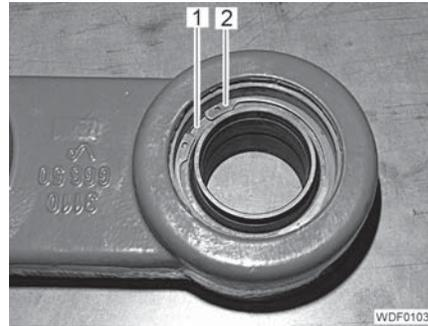

Fig. 300 Securing the bearing
- Remove the locking ring (Fig. 300,2) and washer (Fig. 300,1) on the underside of the self-aligning bearing.
- Insert the washer (Fig. 300,1) and locking ring (Fig. 300,2).